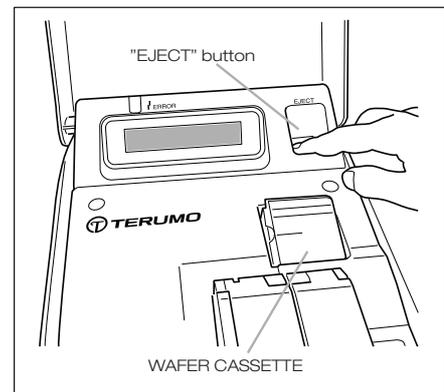

Figure 13
2. Press the "EJECT" button (See Figure 13). The far edge of the cassette will pop up so that it can be seized and pulled out of the compartment.